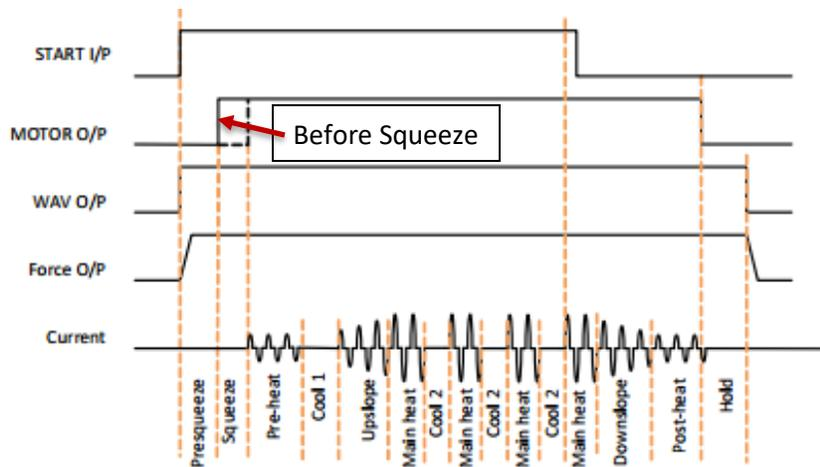

Figure 53: Seam Weld Timing Diagram – Second Stage Before Squeeze
The weld program (schedule) to be programmed will follow the Seam Weld timing diagram shown in Figure 53. This example is based on a machine with the configuration defined below:
The steps to program the Weld Program in Figure 53 are as follows:
25) The weld program corresponding to the seam welding timing diagram in **Figure 53** has now been stored in the EN7000v2 weld control and it is ready for use.